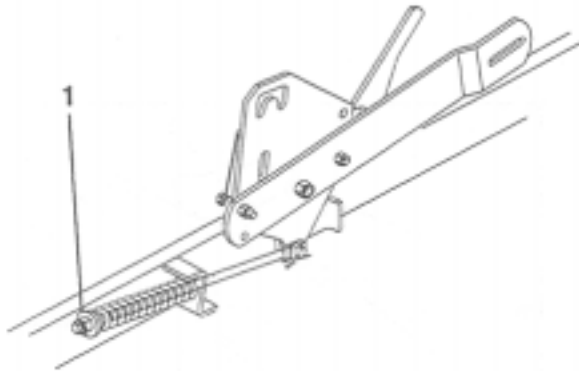

Figure 11
2. Rotate the spring adjusting nuts (Fig. 11) clockwise to raise the blade; counterclockwise to lower the blade.